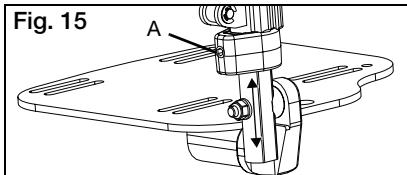

Fig. 15
1. Loosen set screw (Fig. 15:A) with a 4mm Allen wrench.